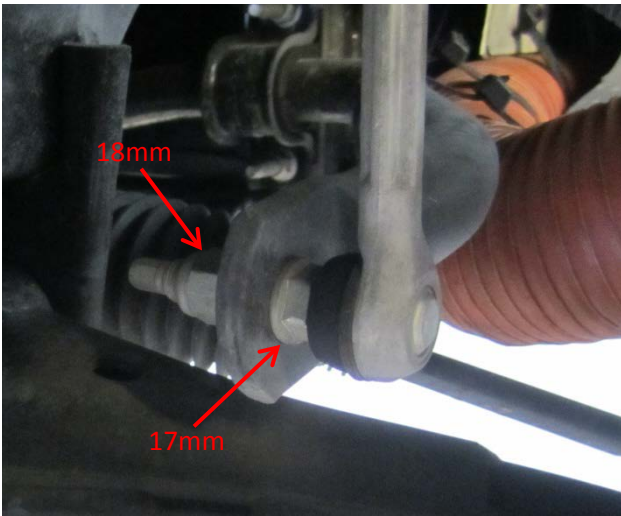

Figure 2
3. Remove the front drop links from the ends of the stock sway bar using a 17mm open end wrench and an 18mm deep socket or box end. See Figure 2.